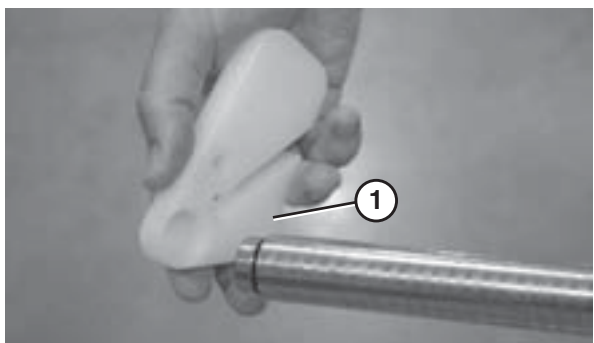

Figure 96
2. Remove the nose bar puck holders (Figure 96, item 1).